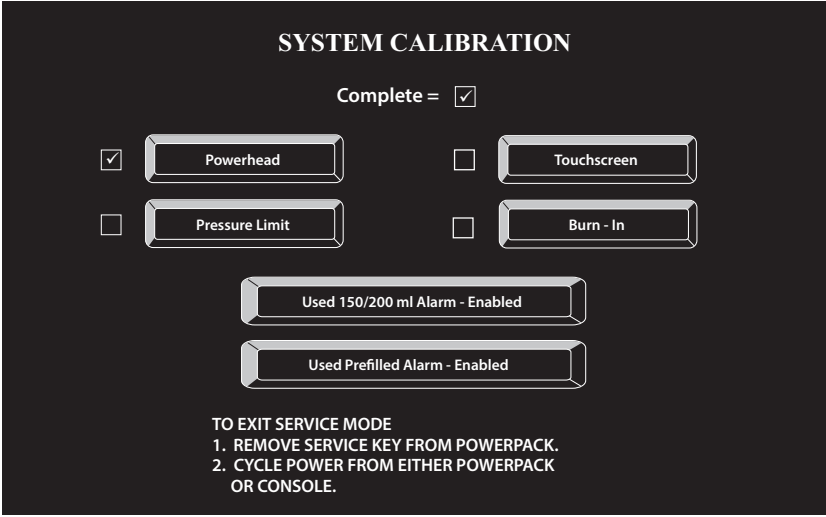

Figure 5-4-7 System Calibration Screen in the Service Mode: Box to the Left of Powerhead Checked
6. The System Calibration screen, as shown in Figure 5-4-7, will then be displayed with the box to the left of powerhead checked. If not checked, repeat the procedure.